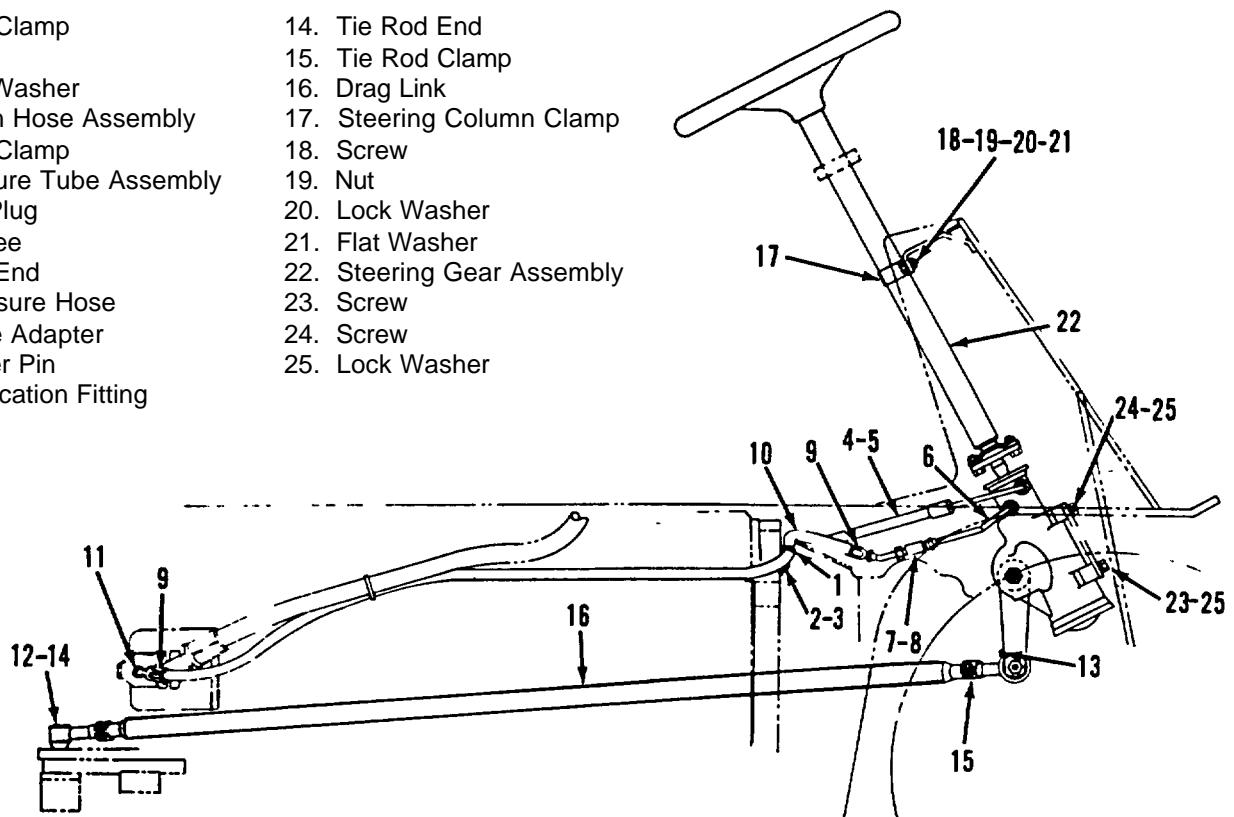
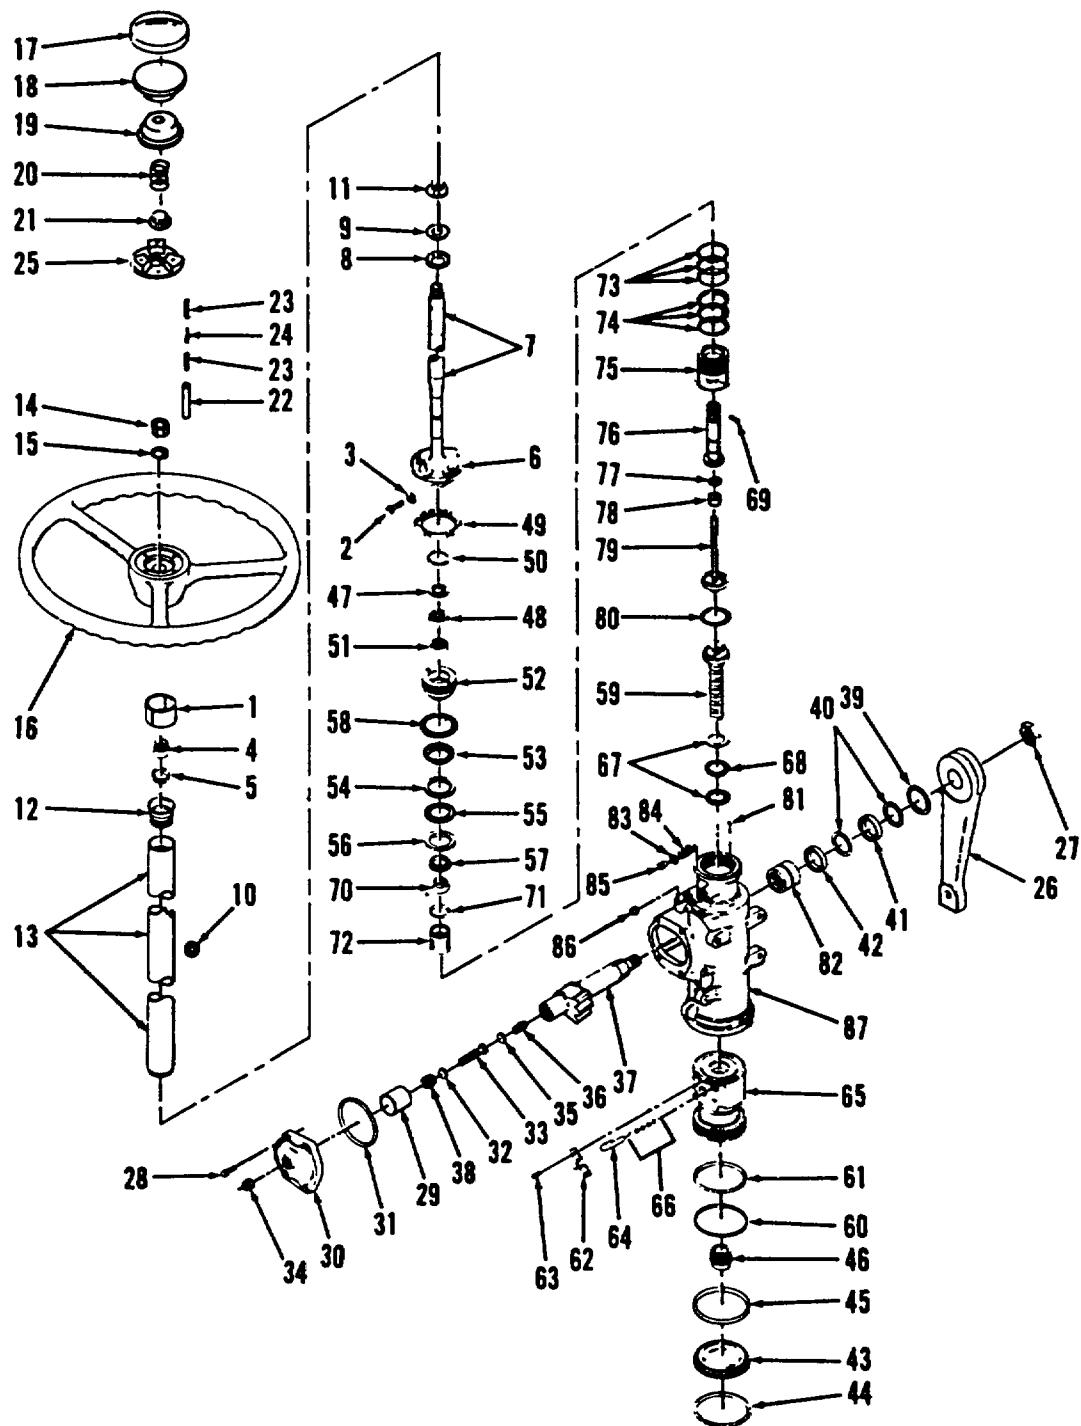
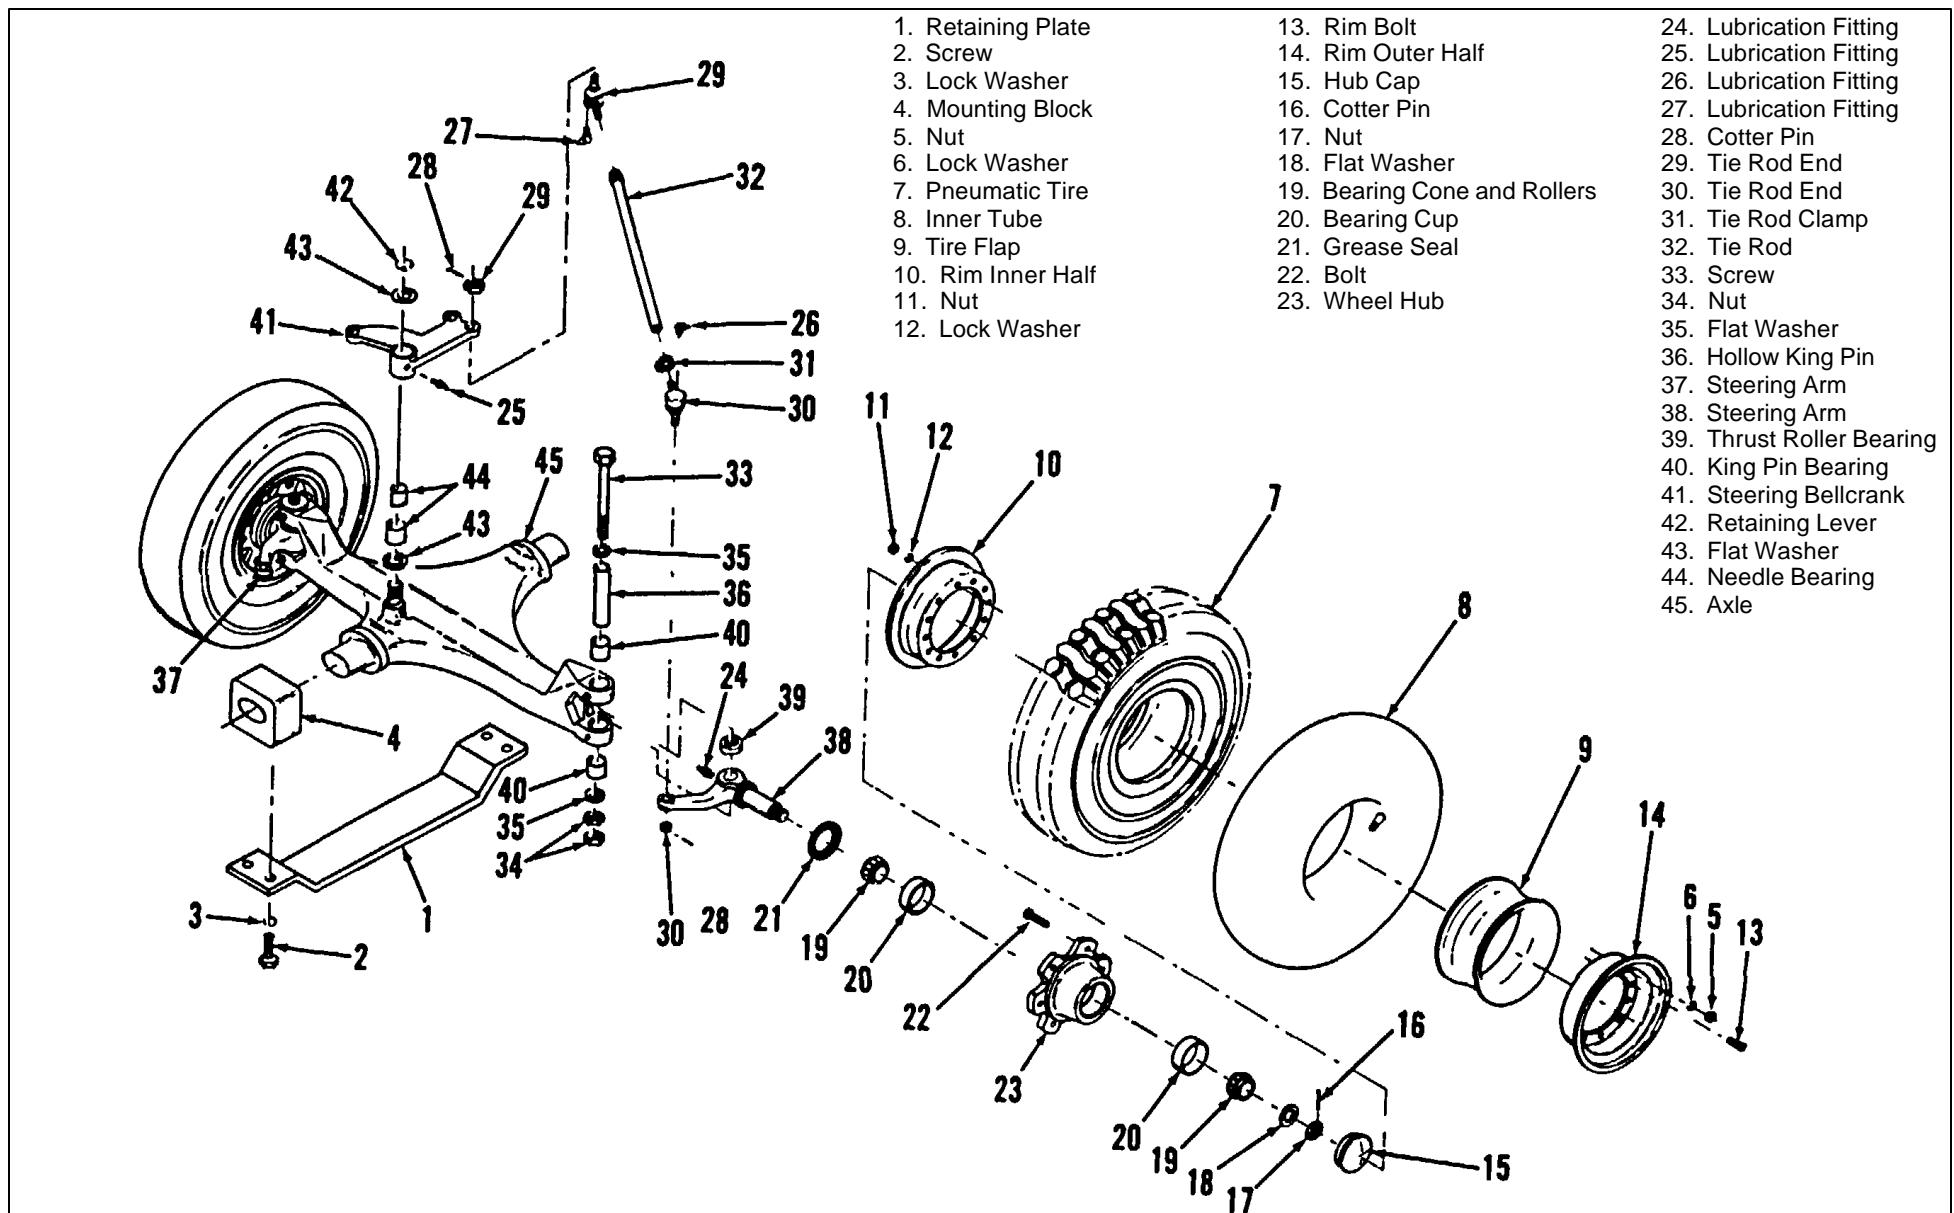

Figure 4-31. Power Steering Arrangement
Figure 4-32. Power Steering Gear Assembly, Exploded View
Figure 4-33. Rear Steering Axle Assembly, Exploded View
4. Remove capscrews (23 and 24, figure 4-31) and lockwashers (25) attaching steering gear to chassis. Remove gear to clean area.
Key to Figure 4-32
4-116. REMOVAL. Remove floor plate (paragraph 4-19) and remove nut securing drag link (16, figure 4-31) to the steering lever (26, figure 4-32). Remove nut securing drag link (16, figure 4-31) to steering axle bellcrank (41, figure 4-33). Press ball joint studs from respective lever and bellcrank and remove drag link.
1. Loosen clamp (15, figure 4-31) at each end of drag link (16).
2. Remove capscrews (2, figure 4-33) lockwashers (3) and remove axle insulator block bracket (1).
Do not remove bearing cups (20, figure 4-33) from the wheel (23) or bushing (40) from the axle (45) unless inspection indicates need for replacement.
1. Pry hub cap (15) from wheel (23). Remove cotter pin (16), nut (17) and washer (18) from axle spindle (37 and 38).
2. Withdraw wheel (23) from spindle using care not to damage seal (21).
3. Remove four cotter pins and nuts securing tie rod ends (29-30). Using suitable tool, separate taper ball studs from axle spindles and steering bellcrank (41).
4. Remove retaining ring (42) and washer (43) from axle beam (45). Lift bellcrank (41) front pivot post.
5. Remove double nuts (34), washers (35) and capscrew (33) from king pin (36). Press king pin from spindle (37 and 38).
6. Remove spindle (37 and 38) and thrust washer (39) from axle beam (45).
7. Disassemble tie rods (32) in a similar manner as the drag link. See paragraph 4-117.
8. Remove insulating mounting blocks (4) from the axle beam (45).